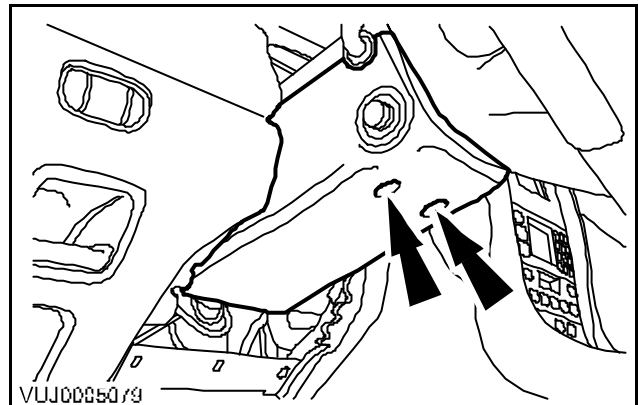

Fig. 7
- 12 Install steering column lower cowl. Install and fully tighten securing screws. (See Fig. 7)